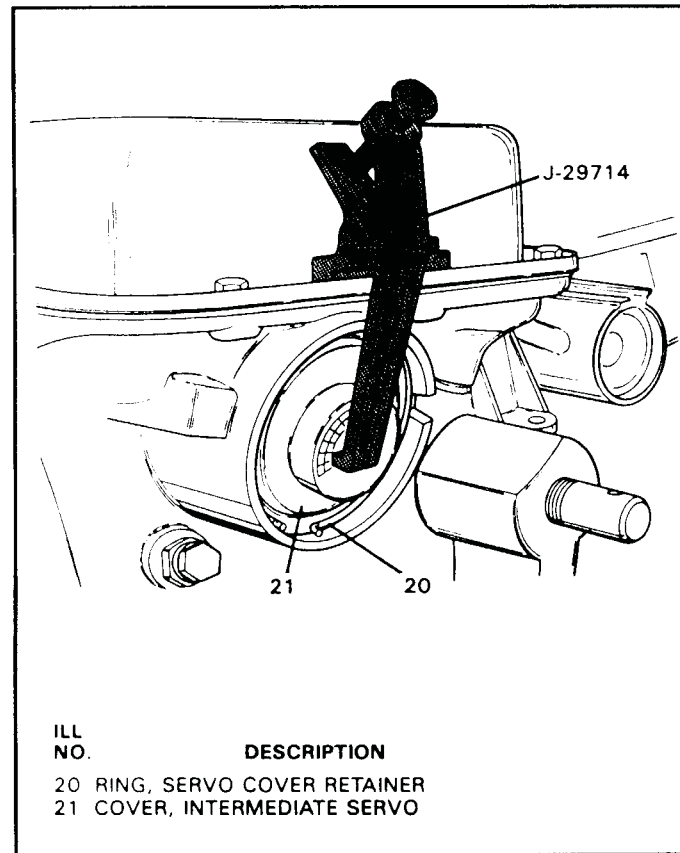

Figure 113
6. Install J-29714 compressor tool on case, as shown in Figure 113.
7. Compress the servo cover by turning the hex nut on the tool (See Figure 113).
8. Install the servo cover snap ring into transmission case, as shown in Figure 113.